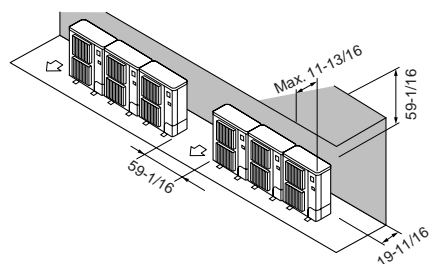

Fig. 2-9
- ② Obstacles at rear and above only (Fig. 2-9)